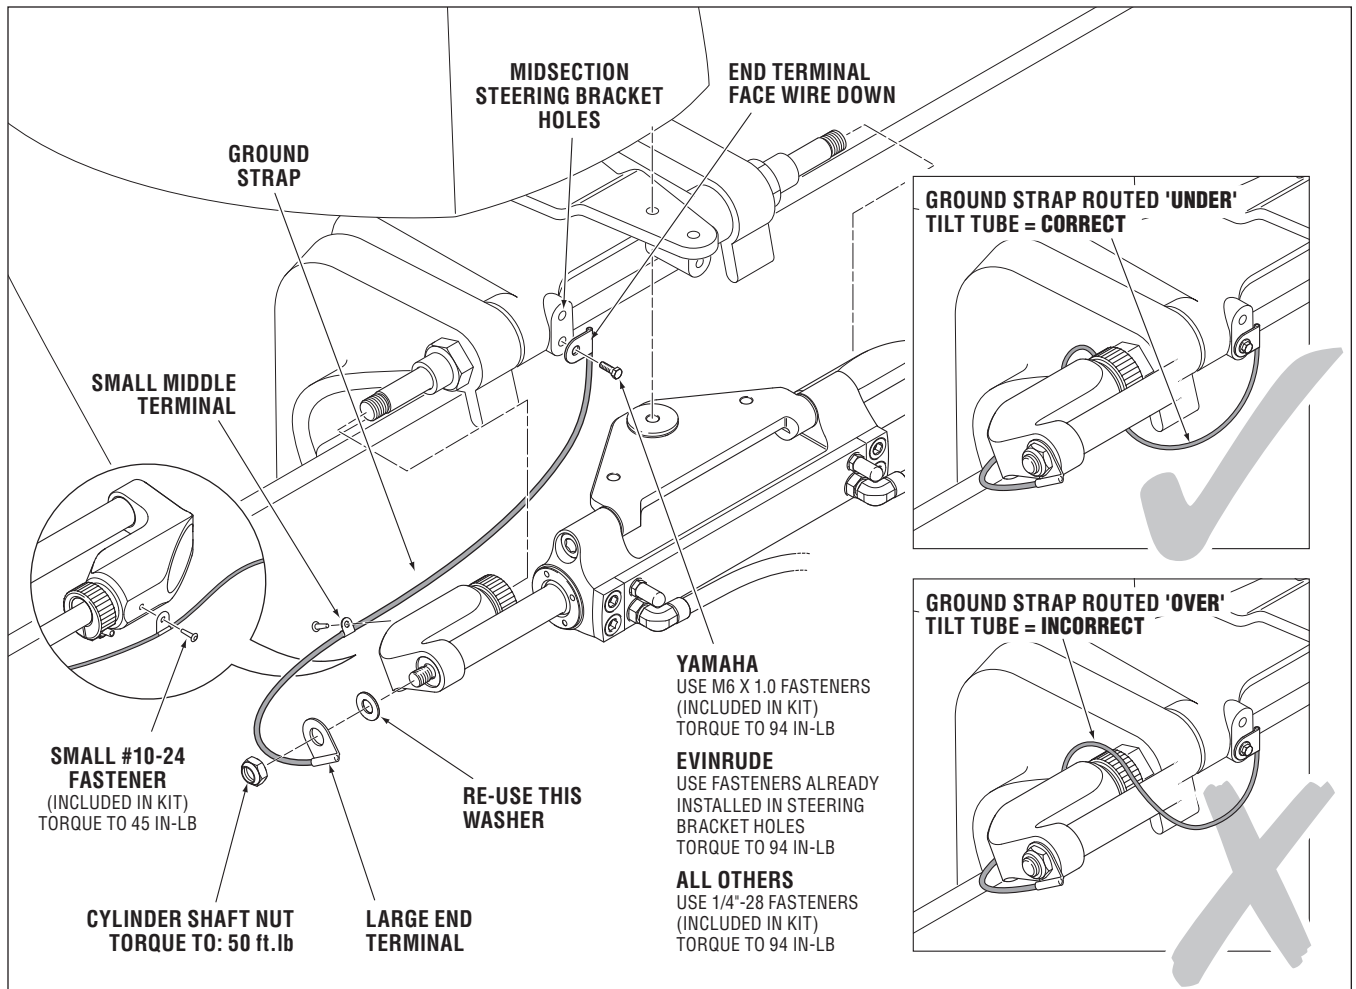

Figure 7. Ground Strap Installation.
If used in a saltwater application, install end of ground strap to midsection steering bracket hole (see Figure 7, page 11).
- Thread adjusting nut (item 10) **completely** onto steering/tilt tube.
- Install stainless steel washers (item 11) onto both sides of the support rod (item 9).
- Install plastic spacers (items 7 and 8) as per your engine details.
- To assist with the installation grease and install keys (item 14) into support rod (item 9).
- Grease and secure support brackets (item 12) to the support rod and the cylinder rod.
- Install washers (items 3 and 4)
- If using a ground strap, complete install of strap as shown in Figure 7, page 11.
- Install nuts (item 5 and 6) torque to 50ft-lb.
- Route ground strap UNDER the tilt tube. Install ground strap large end terminal to cylinder as per Figure 7.
- Attach small middle terminal to unused hole in rear of cylinder support bracket. Orient terminal as shown in Figure 7. Torque to 45 in-lb.